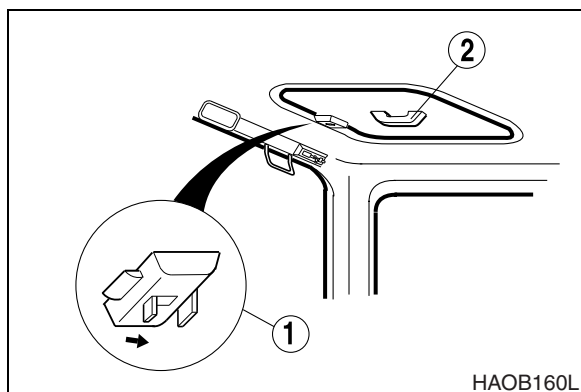

Figure 88
3. Pull the lock (1, Figure 88) in front center of ceiling cover and push it up with handle (2).
3. Pull down cover with the handle (2, Figure 88) so that the lock (1) can be locked in the bracket in the ceiling frame.